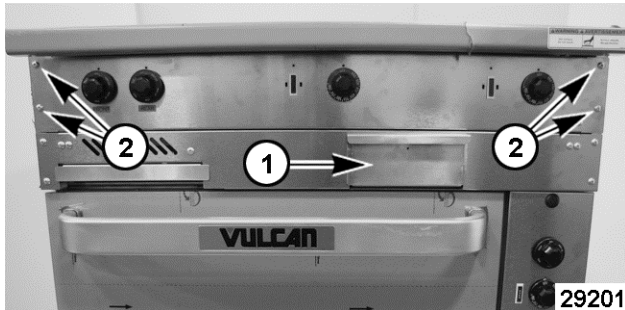

Fig. 5
1. Pull out grease tray (1, Fig. 5) on models with griddle.
2. Remove 4 screws (2, Fig. 5) from control panel.